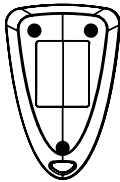

Figure 16. Battery cover
1. Open the battery cover by unscrewing the 3 screws on the backside of the transmitter housing (see fig. 16).